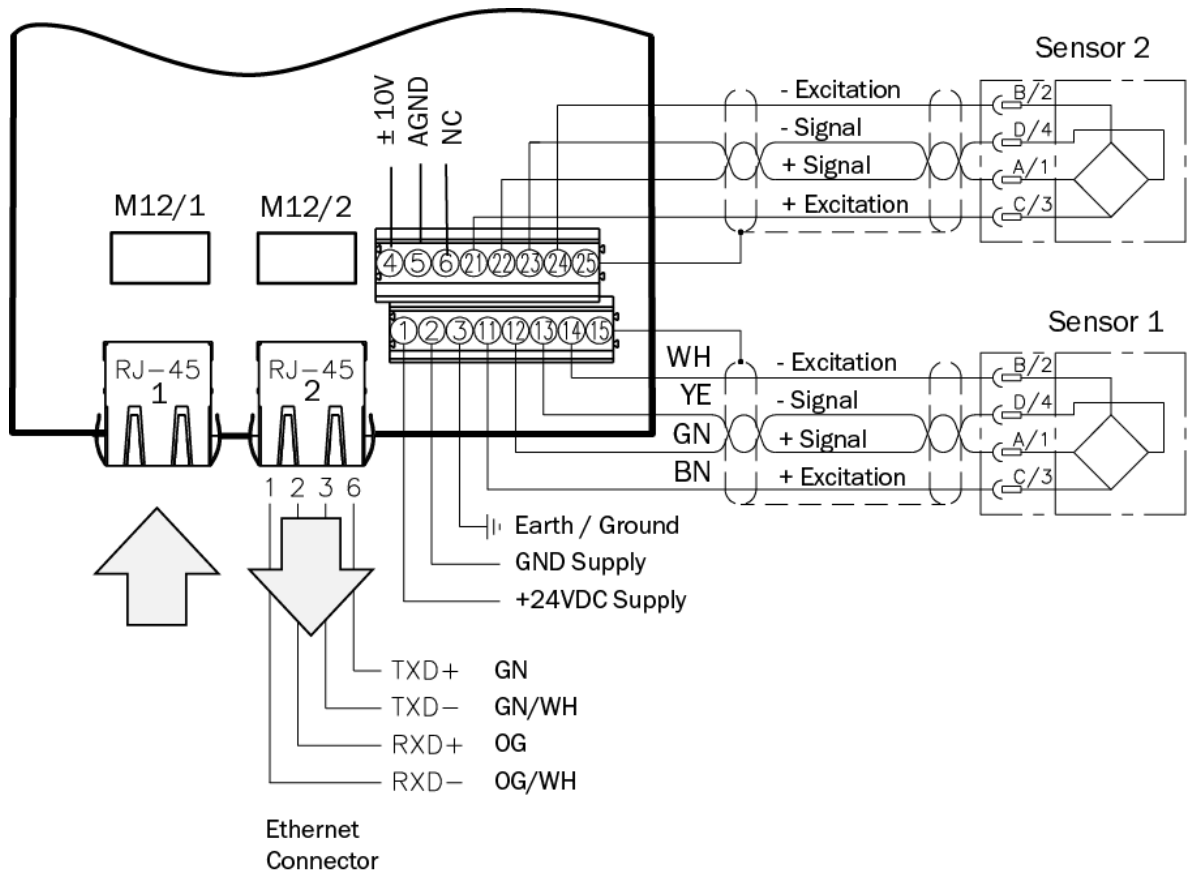

Fig. 2: Wiring Diagram EMGZ 490
2. Wire the Force Measuring Sensor(s) (ref. to Fig. 2)
2. Connect volt meter to the voltage output (**Fig. 2**, terminal 4/5)
3. Connect first force sensor to the amplifier (see **Fig. 2**).
4. Check whether a load in measuring direction (red point) results in a positive volt reading. If the reading is negative, change signal wires in the corresponding sensor (**Fig. 2**, terminals 12/13).
6. Check whether a load in measuring direction (red point) results in a positive volt reading. If the reading is negative, change signal wires in the second sensor (**Fig. 2**, terminals 22/23).
The EMGZ 490 uses the static IP address 192.168.0.90, if the digital input 1 is activated. To activate Dig. In 1 connect terminal 1 with 6 (24VDC with Dig. In 1) (see Fig. 2). In this case the IP- address cannot be changed. Since every device has an unique address in the same network, a re-assignment via an PLC is not possible.